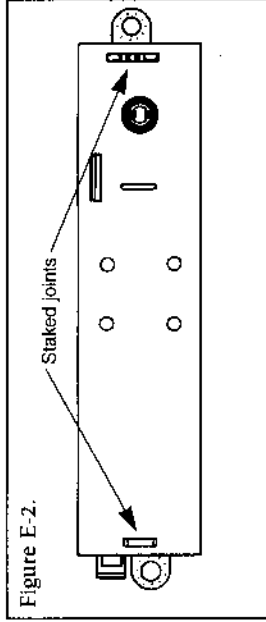
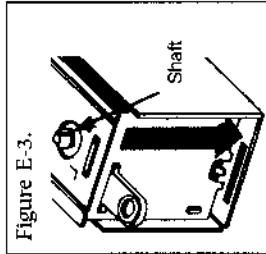

Figure E-2.
Figure E-3.
5. Remove the chamber cover marked "Simplex" (see Figure E-2) by gently tapping the lip of the back cover at the control shaft end of the chamber (see Figure E-3) with a screwdriver to detach it from the staked joints.